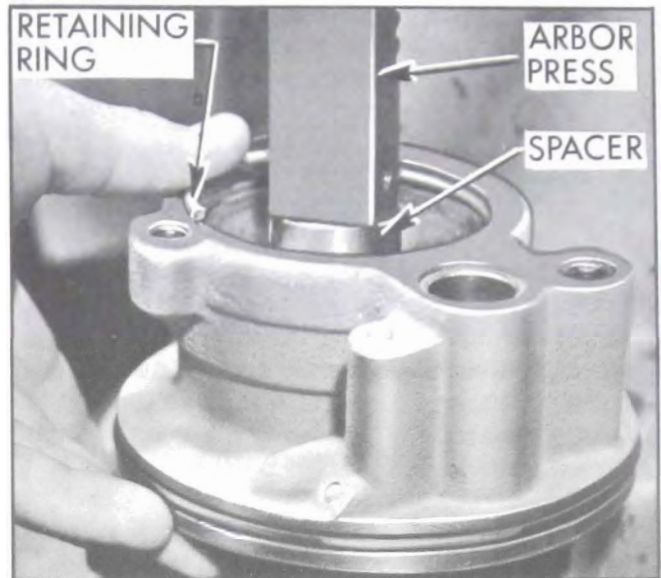
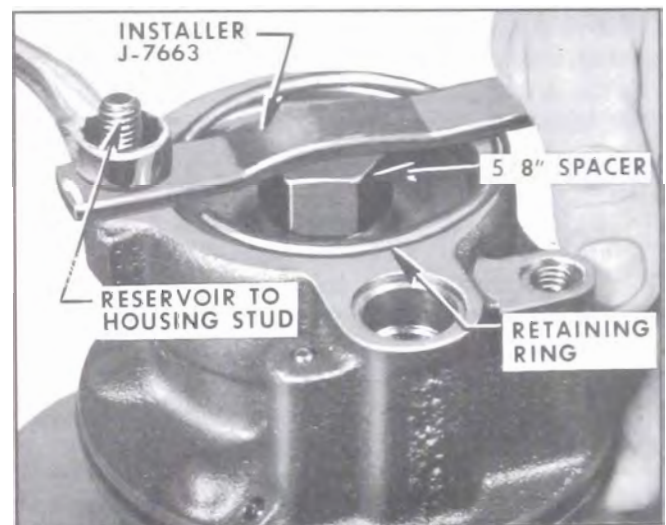

Figure 8-77—Installing End Plate Using Arbor Press
Figure 8-78—Installing End Plate Using J-7663
11. End plate can be installed with arbor press as shown in Figure 8-77 or using Installer J-7663 as follows. Place retaining ring on top of end plate and position Installer J-7663 so that depression of installer is against center of end plate. See Figure 8-78. Attach installer to housing (not slotted end) using the reservoir to housing stud with long end of stud threading into housing. Press end plate down by tightening stud until ring groove in housing is evenly exposed. It may be necessary to press down slotted end of installer when tightening stud to prevent end plate from cocking in housing.
12. Install retaining ring, being sure that ring is completely seated in housing groove and end plate is aligned properly. See Figure 8-78.